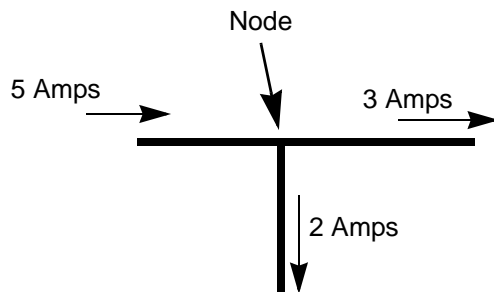

Figure 7.41
- The sum of the currents coming out of the other two wires must equal 5 amps. That could be 3 amps in one wire and 2 amps in the other or it could be 2.5 amps in each wire, but the total coming out must be the same as the current going in. See Figure 7.41.